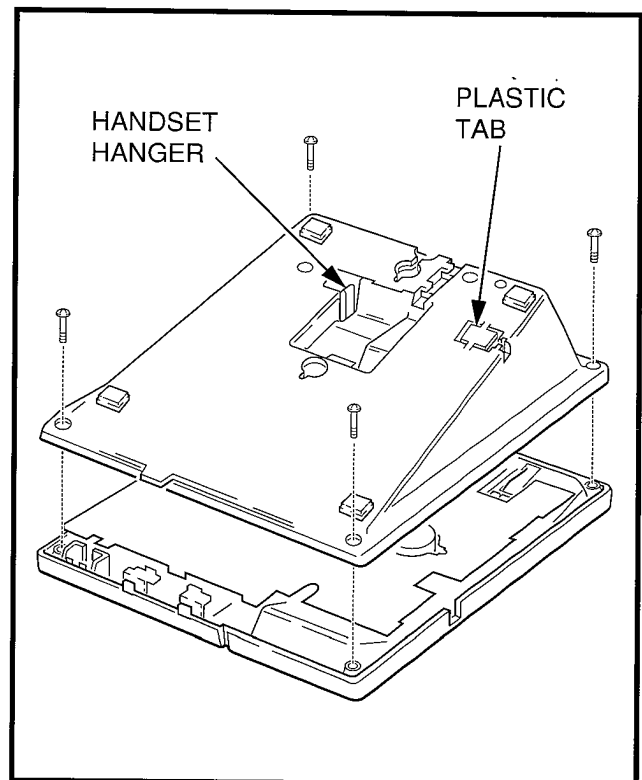
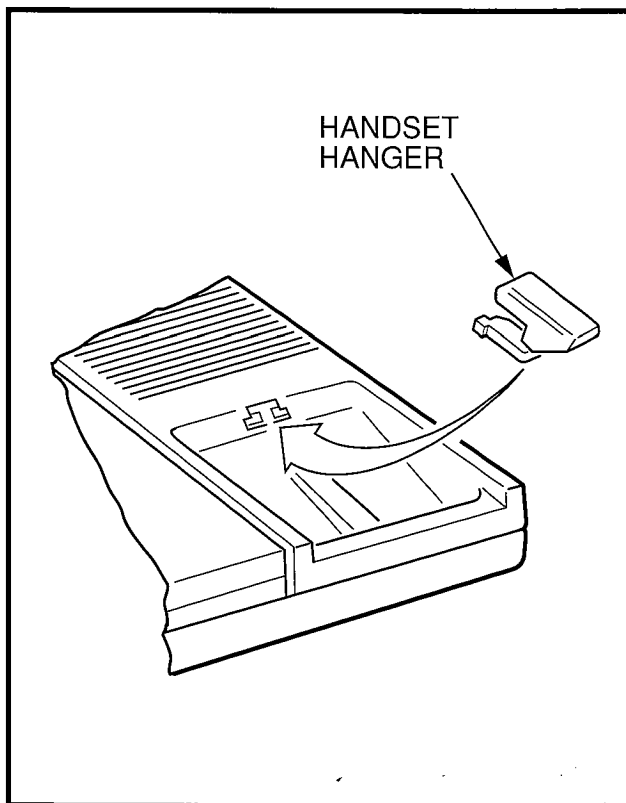

FIGURE 7-1—REMOVING ELECTRONIC TELEPHONE BASE
FIGURE 7-6—HANDSET HANGER INSTALLATION
- 1) Loosen the four captive screws securing the telephone base (Figure 7-1), and remove the base.
- 2) Using a screwdriver or other suitable tool, remove the plastic tab located on the back of the base (Figure 7-1). The HHEU modular connector will be accessed through this opening.
2.31 If the beep strap is cut, the beep sound that occurs whenever the feature or dialpad buttons are pressed is eliminated (refer to Figures 7-1 and 7-3).
2.41 If the speaker cuts off frequently because high ambient noise levels interrupt conversations during handsfree operation, set the Room Noise switch to the HI position (see Figures 7-1 and 7-3).
- 2) Using a suitable cutter, remove the handset hanger from the base (refer to Figure 7-1). Insert the handset hanger in the slot provided on the front of the telephone (Figure 7-6). The hanger fits in the notch on the handset.